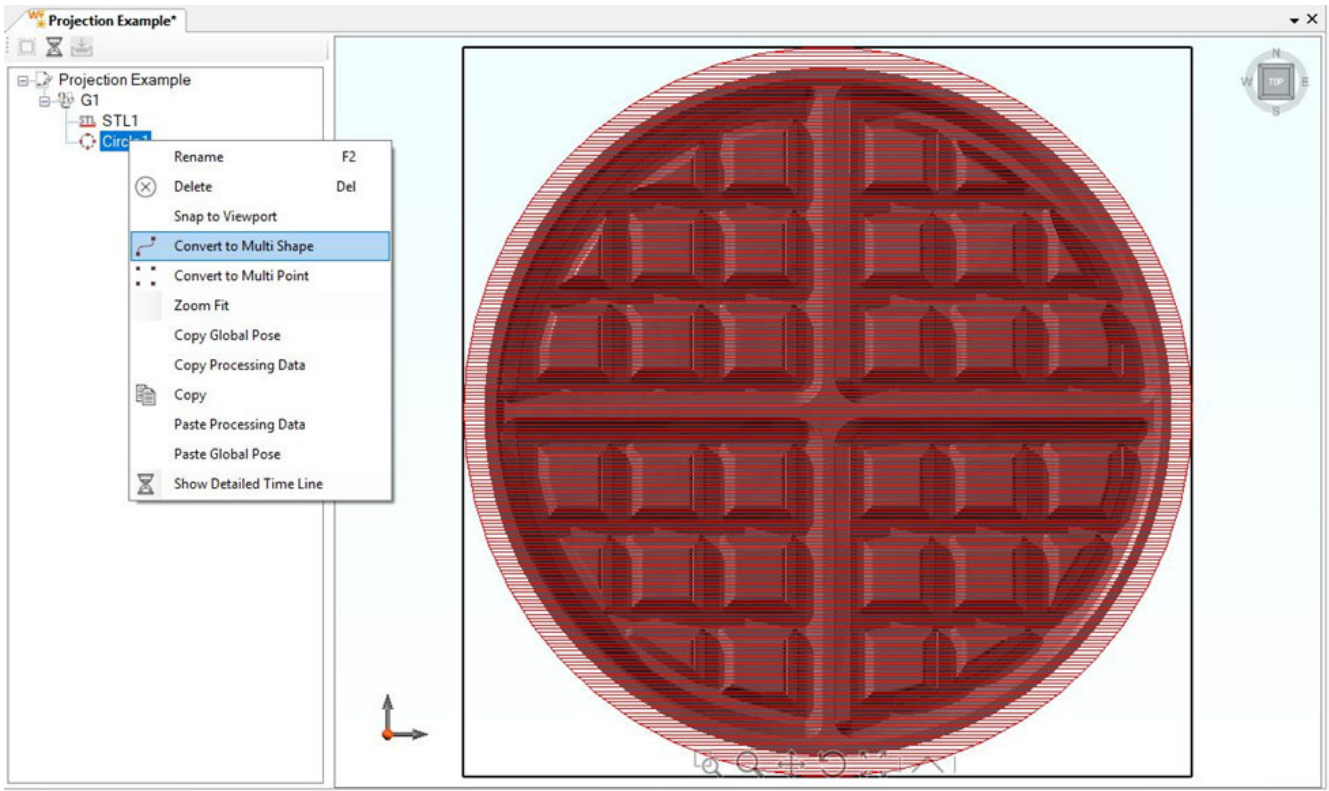

Figure 133: Converting the Process Object into a Multi Shape
5. Once the desired object is created, it must be converted into a Multishape. This can be done by right clicking on the objects name in the Job Tree and then clicking on "Convert to Multi Shape." See Figure 133 (below).